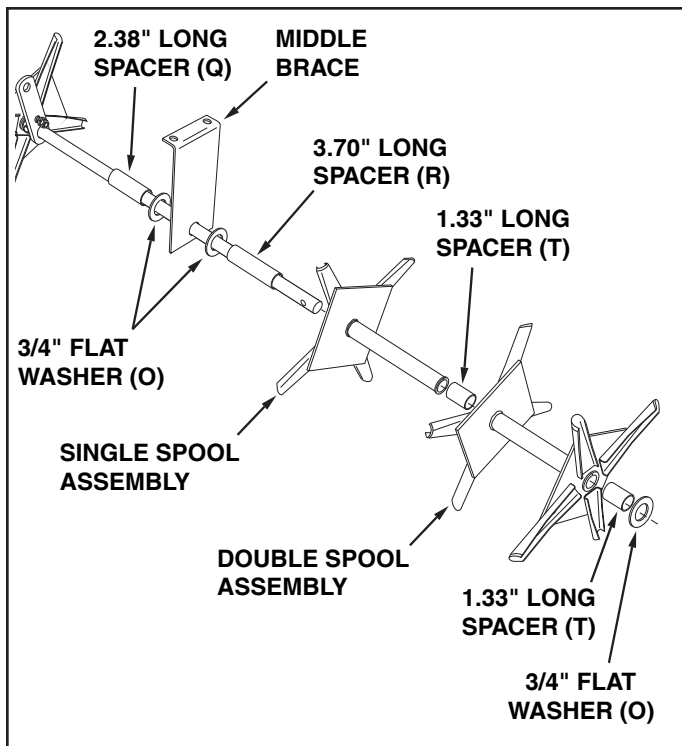

FIGURE 5
8. Assemble a 2.38" long spacer, a 3/4" flat washer, the middle brace, a 3/4" flat washer, a 3.70" long spacer, a single spool assembly, a 1.33" long spacer, a double spool assembly, a 1.33" long spacer and a 3/4" flat washer onto the long end of the shaft. The bent lip of the middle brace must face the short end of the shaft. See figure 5.